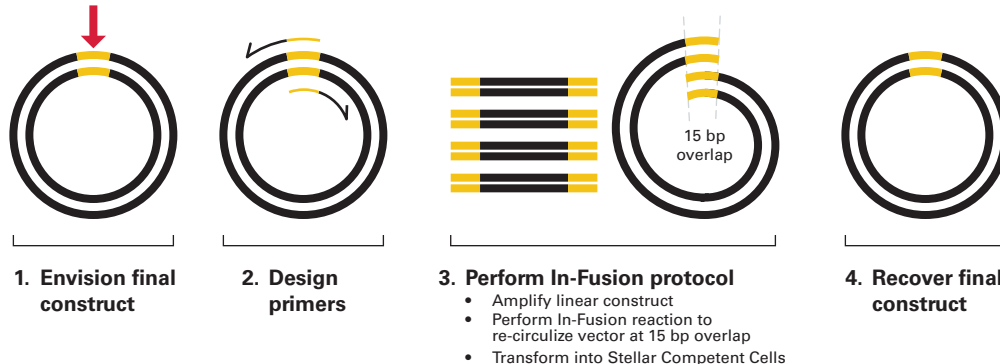

Figure 1. Procedure for performing mutagenesis with In-Fusion systems. The area where mutagenesis occurs is shown in yellow.
In-Fusion Cloning makes it easy to perform mutagenesis: it combines the power of the In-Fusion HD enzyme with inverse PCR, a method for rapid *in vitro* amplification of the DNA sequences that flank a region of known sequence (1). During inverse PCR, primers are oriented in opposite directions on your circular cloning vector (Figure 1). To perform mutagenesis with In-Fusion systems, design your PCR primers so that they have a 15 bp overlap with each other at their 5' ends and incorporate the mutation of interest. Use the CloneAmp[™] HiFi PCR Premix (a high-fidelity PCR polymerase included with all In-Fusion HD Cloning Plus Systems) to perform your PCR reaction, add the In-Fusion HD enzyme premix to your linearized PCR product, and transform into the provided Stellar[™] Competent Cells. You have a ≥95% chance of recovering your final desired construct—the first time and every time.
- 1. Think about your final construct:** Choose the vector you want to modify and envision your final, mutated construct (Figure 1; mutation shown in yellow).